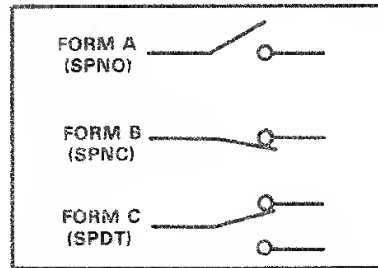

Figure 1. Switch Terminology
2. Form B is similar to Form A except that its contacts are normally closed (refer to Figure 1). A 2-pole switch normally closed is classified as a 2 Form B.
3. Form C is shown in Figure 1 as a single pole double throw switch. It could also be a multiple switch such as a 2-pole which would be classified as a 2 Form C.